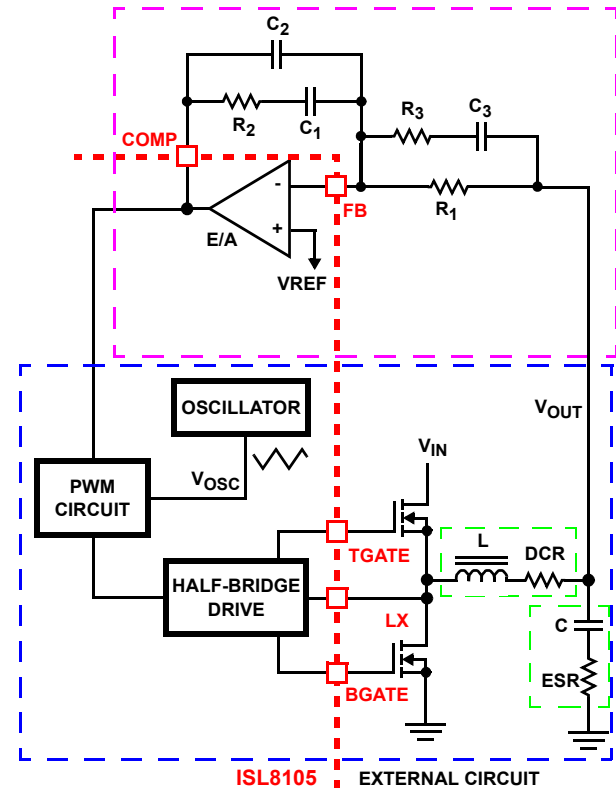

FIGURE 9. VOLTAGE-MODE BUCK CONVERTER COMPENSATION DESIGN
This section highlights the design considerations for a voltage-mode controller requiring external compensation. To address a broad range of applications, a type-3 feedback network is recommended (see Figure 9).
Figure 9 highlights the voltage-mode control loop for a synchronous-rectified buck converter, applicable to the ISL8105 circuit. The output voltage (V_{OUT}) is regulated to the reference voltage, V_{REF} , level. The error amplifier output (COMP pin voltage) is compared with the oscillator (OSC) triangle wave to provide a pulse-width modulated wave with an amplitude of V_{IN} at the LX node. The PWM wave is smoothed by the output filter (L and C). The output filter capacitor bank's equivalent series resistance is represented by the series resistor ESR.
Equations 5 through 8 that relate the compensation network's poles, zeros and gain to the components (R_1 , R_2 , R_3 , C_1 , C_2 , and C_3) in Figure 9. Use the following guidelines for locating the poles and zeros of the compensation network:
1. Select a value for R_1 (1kΩ to 10kΩ, typically). Calculate value for R_2 for desired converter bandwidth (F_0). If setting the output voltage to be equal to the reference set voltage as shown in Figure 9, the design procedure can be followed as presented in Equation 5.